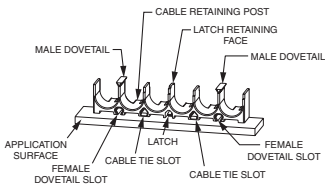

Figure 1
- 1) Secure bottom level of Stackable Cable Rack Spacer to the application surface, i.e. ladder rack rung with two standard cross-section Panduit Pan-Ty Cable Ties (Figures 1, 2, and 3).